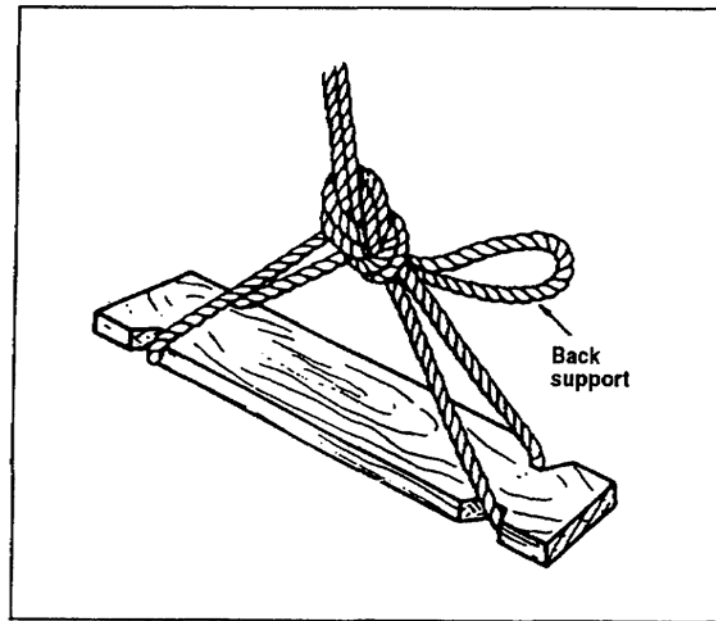

Figure 4-20. Boatswain's chair
(1) The boatswain's chair shown in Figure 4-20 is made to support one man. Use the chair to paint small areas that cannot be reached by ladders or where it is impractical to erect scaffolds. A double bowline knot is used to make up the chair. For short periods of time, the chair can be used without the notched board by inserting your legs through the loops.